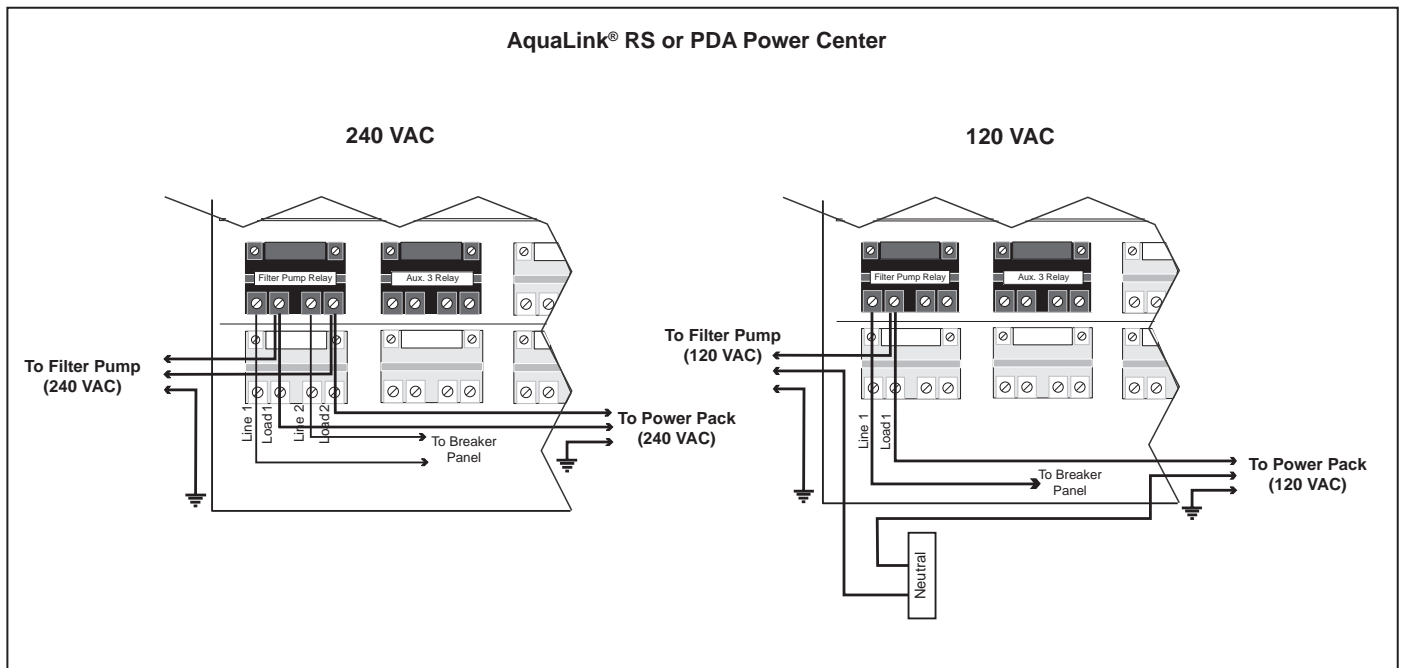

Figure 19. Wiring Power Pack to an AquaLink RS or PDA Power Center (240 VAC and 120 VAC)
6. In the AquaLink RS or PDA power center, wire the power pack directly to the LOAD SIDE of the filter pump relay (see Figure 19).